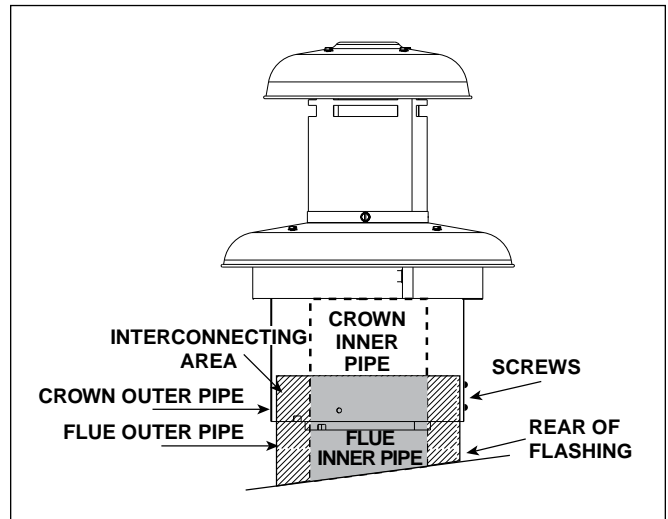

Figure 8.
3. Place the upper Roof Jack crown onto the flue pipe assembly. (See Figure 8.) The flue collar of the transit cap must fit over the flue pipe of the flue assembly. Outer combustion air pipe of the Roof Jack crown must fit over the outer sleeve of the flue assembly. Slide assemblies together. Observe that the roof crown inner pipes are fully engaged or the outer pipe bottoms out against the rear of the roof flashing on slant roof applications. Secure in place using the 3, #10 x 1/2" sheet metal screws removed in step #1. **Do not use the same holes which secured the rain cap in place.**